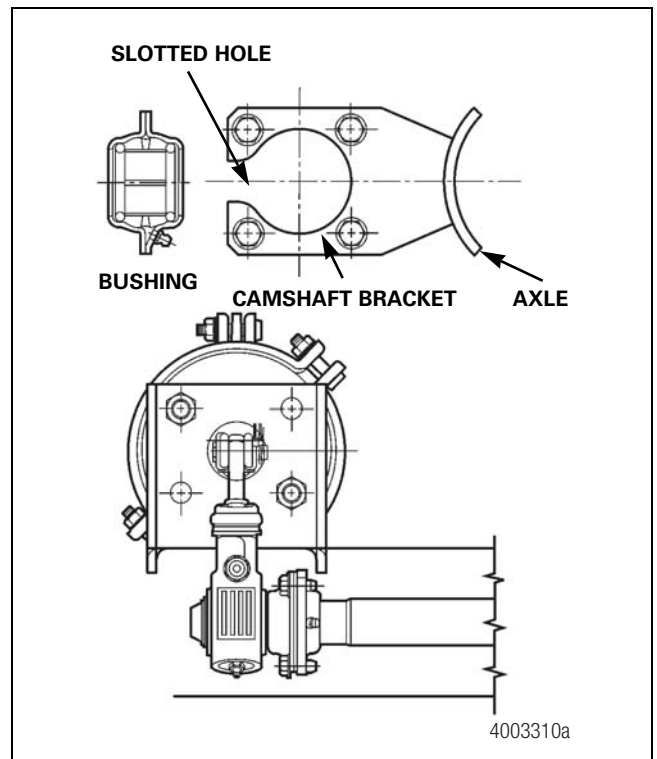

Figure 12.9
- The current production arrangement consists of a bushing with a straight grease fitting installed onto a camshaft bracket with a slotted hole. When assembled, the grease fitting is oriented away from the slack adjuster. Figure 12.9.